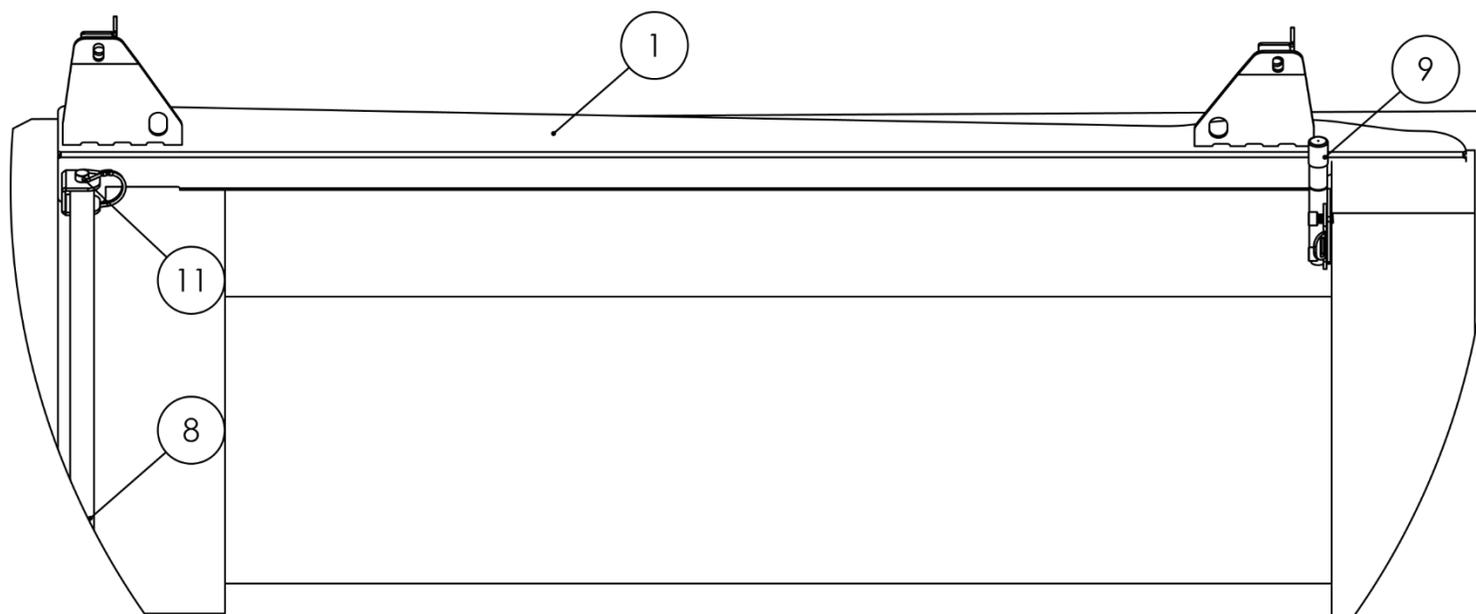

Figure 12
7. **Install and secure the Base Rails.** To mount the Base Rails (Item No. 1), remove the Safety Bolts (Item No. 9) from their Brackets (Item No. 10). Examine the Base Rails and locate a small “U” shaped bracket with two holes. This “U” shaped bracket will serve as the receiver to the Front Spanner (Item No. 8) and is to be positioned at the front of the bed. Once you have positioned the Base Rail’s interior to fit around the shape of the truck (on both sides), insert the Front Spanner into this “U” shaped bracket. Finish the placement of the Base Rail by securing the Front Spanner with the Snap Pins (Item No. 11) and the rear with the Safety Bolts. After you are done, the truck’s bed should appear as Figure 12 on both sides.